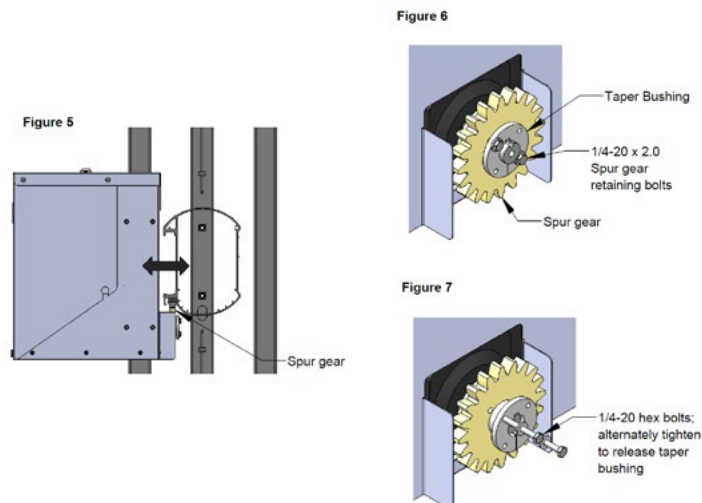

Figure 5, 6 & 7. Adjusting Spur Gear Alignment
1. To adjust spur gear alignment with the tooth rack, loosen but DO NOT REMOVE the two (2) – ¼ -20 x 2.0" retaining bolts and lock nuts on spur gear. See Figures 5 and 6.